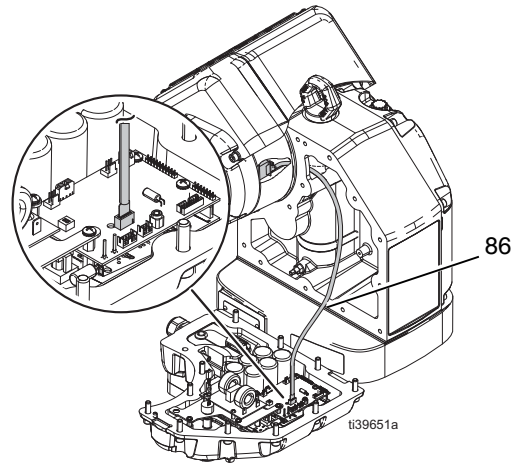

FIG. 21: Token Cable
- Token cable (86). See FIG. 21 on page 17.